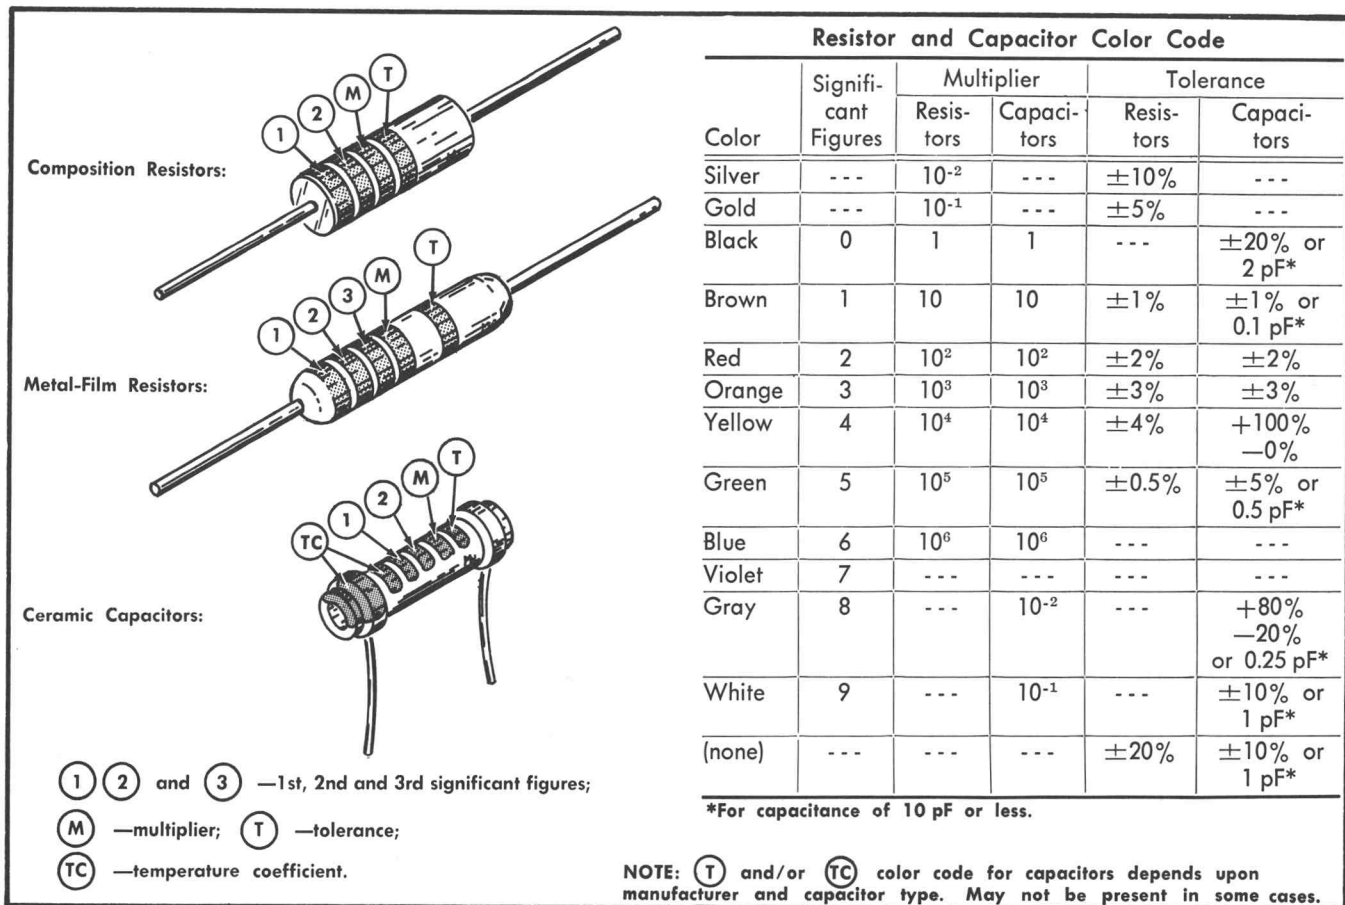

Fig. 4-2. Standard EIA color coding for resistors and capacitors.
**Resistor Color Code.** In addition to the brown composition resistors, metal film resistors (identifiable by their gray or light blue color) are used in the Type 142. The resistance value of composition and metal film resistors is color-coded on the components with the standard EIA color code. The color code is read starting with the stripe nearest the end of the resistor. Composition resistors have four stripes consisting of two significant figures, a multiplier and a tolerance value. Metal-film resistors have five stripes which consist of three significant figures, a multiplier and a tolerance value (see Fig. 4-2).
**Capacitor Marking.** The capacitance value of a common disc capacitor or small electrolytic is marked in microfarads on the side of the component body. The white ceramic capacitors used in the Type 142 are color-coded in picofarads using a modified EIA code (see Fig. 4-2).